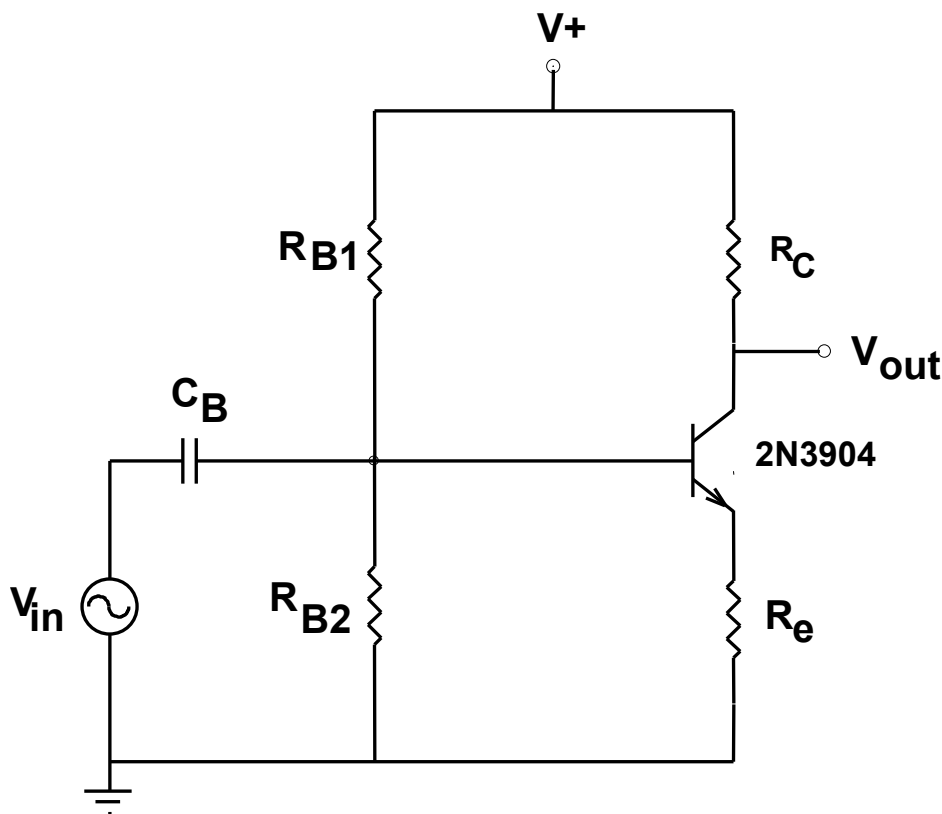

Figure 2. A stabilized BJT amplifier -- Common Emitter with R_e
1. Show that the operating point (Q) of the amplifier in Figure 2 is relatively stable against variations in β by finding I_C and V_C when $\beta=80$ and $\beta=300$.
The gain and bias stability problems we have encountered with the CE amplifier (*see Lab 2*) can be solved by adding a resistor at the emitter of the BJT as shown in Figure 2. Build this circuit and verify that the BJT is biased in the active region.